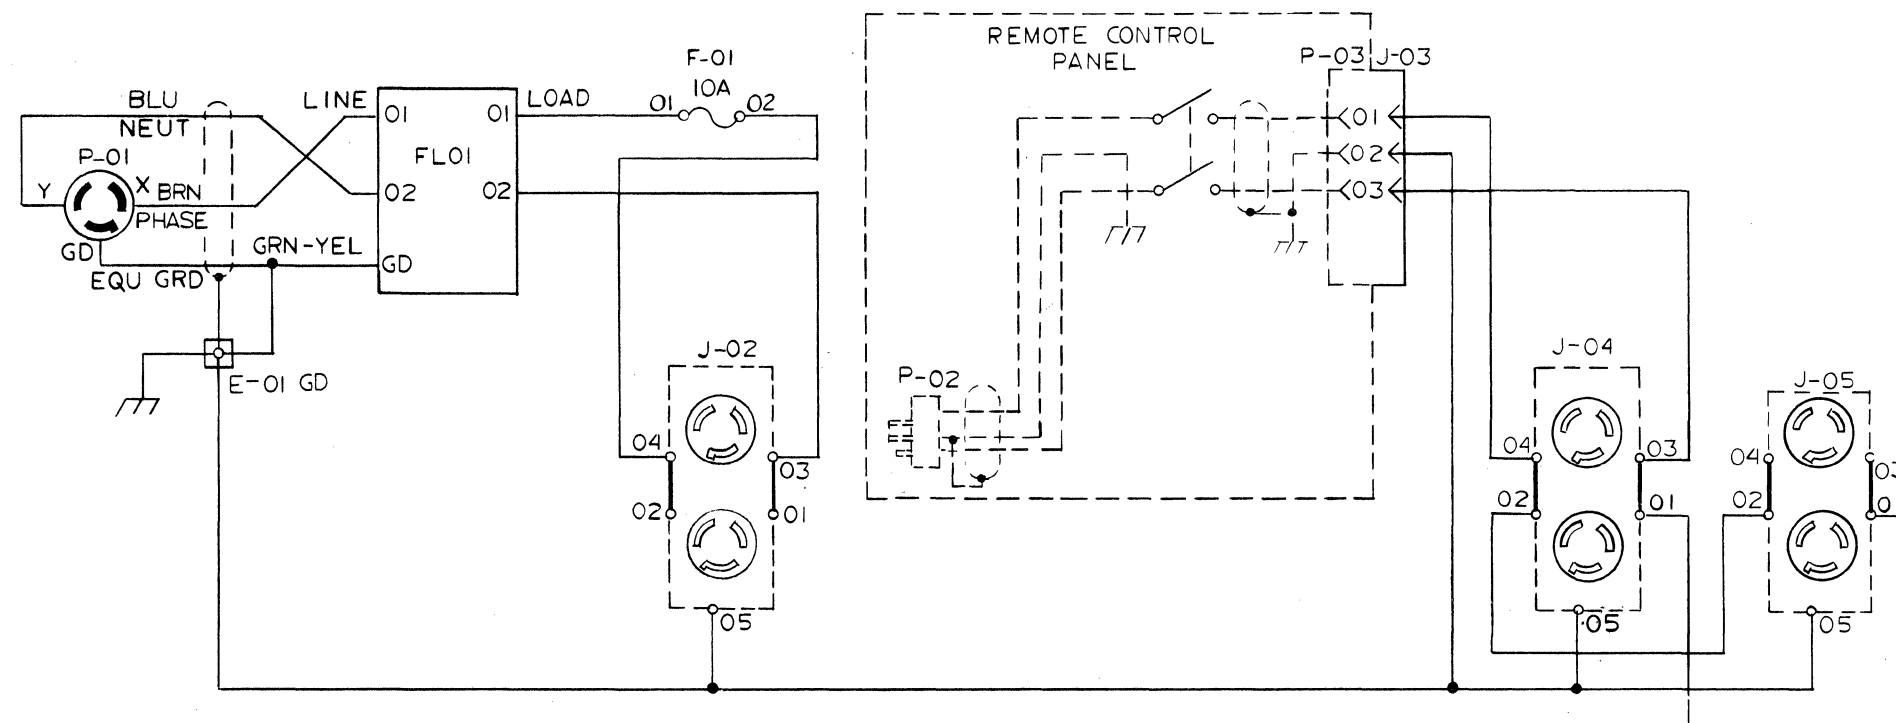

Figure 5-40 Power Distribution Unit, 50-Hz, 15A, BPDU515A Schematic
- Figure 5-40 Power Distribution Unit (BPDU515A) Schematic - 15A, 50-Hz